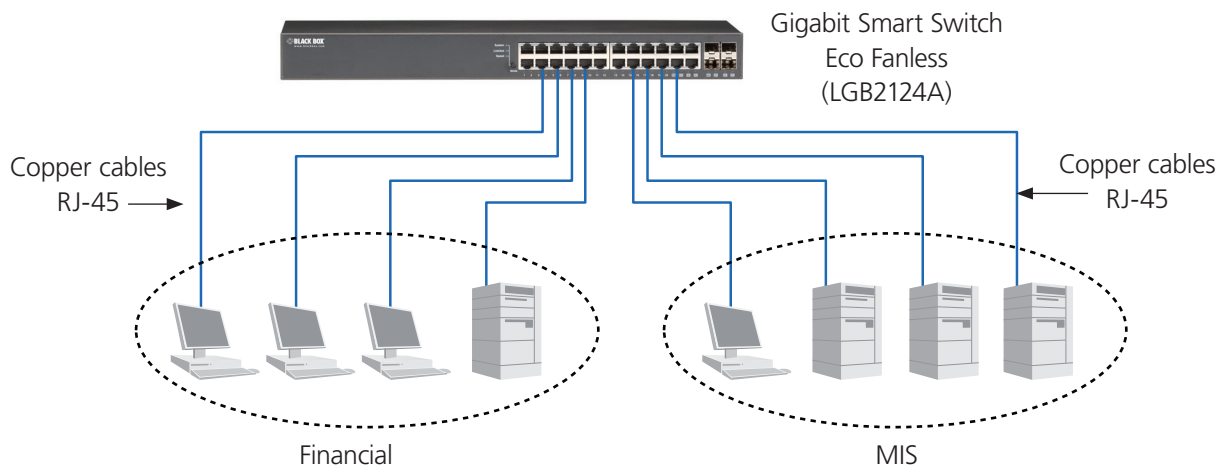

Figure 3-15. Peer-to-peer network connection.
- Peer-to-peer application is used in two remote offices (see Figure 3-15).